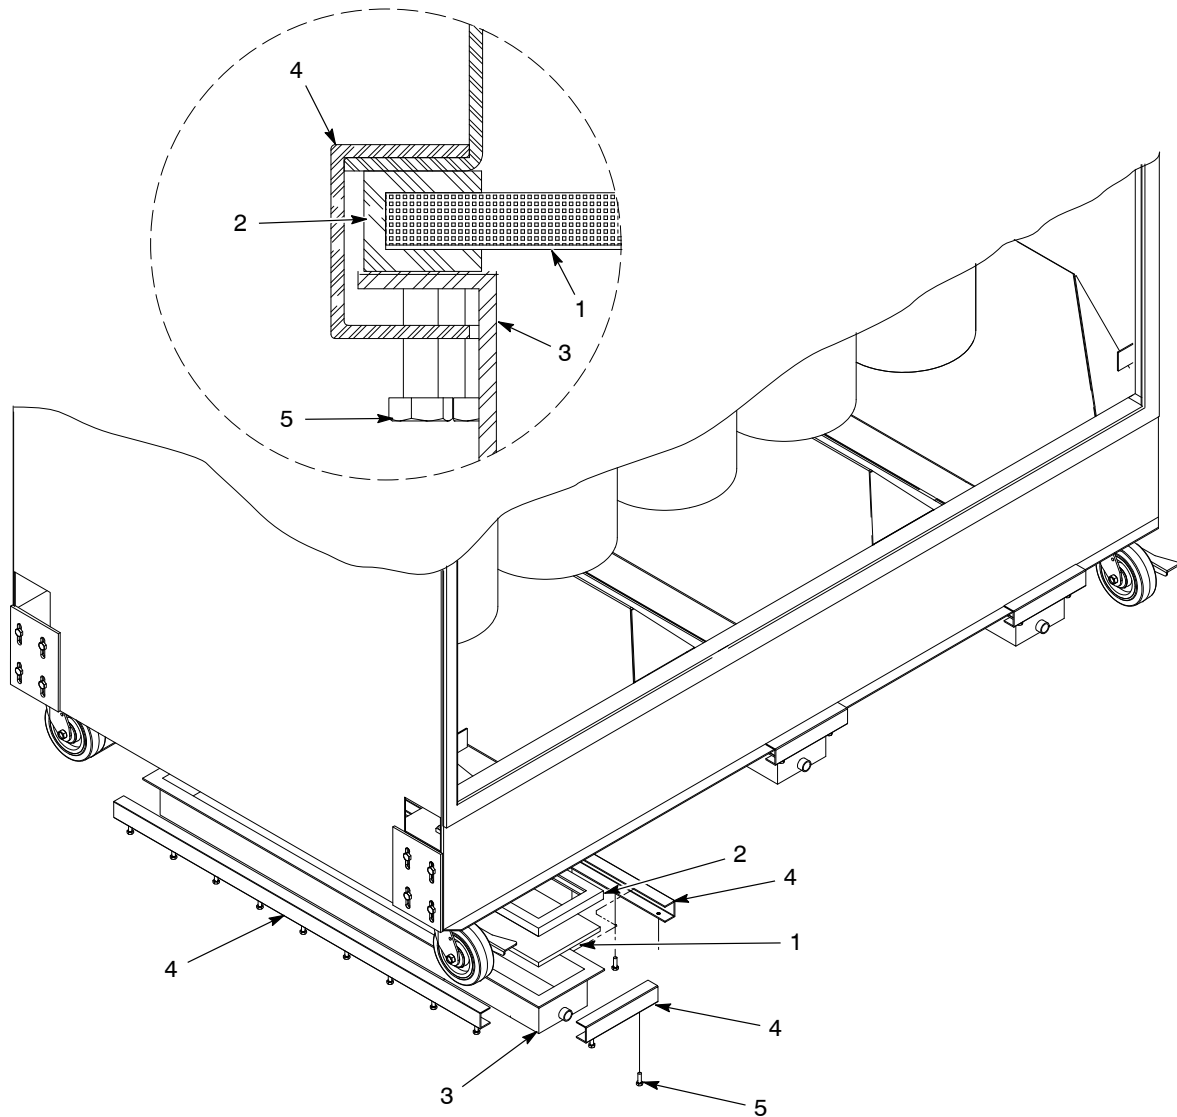

Figure 6-3 Color Module Fluidizing Plate Replacement
1. See Figure 6-3. Unscrew the plenum clamp screws (5) about 6–10 mm (0.25–0.375 in.) to clear the fluidizing plate gaskets (2). Remove the plenum clamp (4).
2. Slide the fluidizing plenums (3), fluidizing plates (1) and gaskets (2) out from under the color module.
3. Separate the old fluidizing plates (1) and gaskets. Discard the old fluidizing plates.